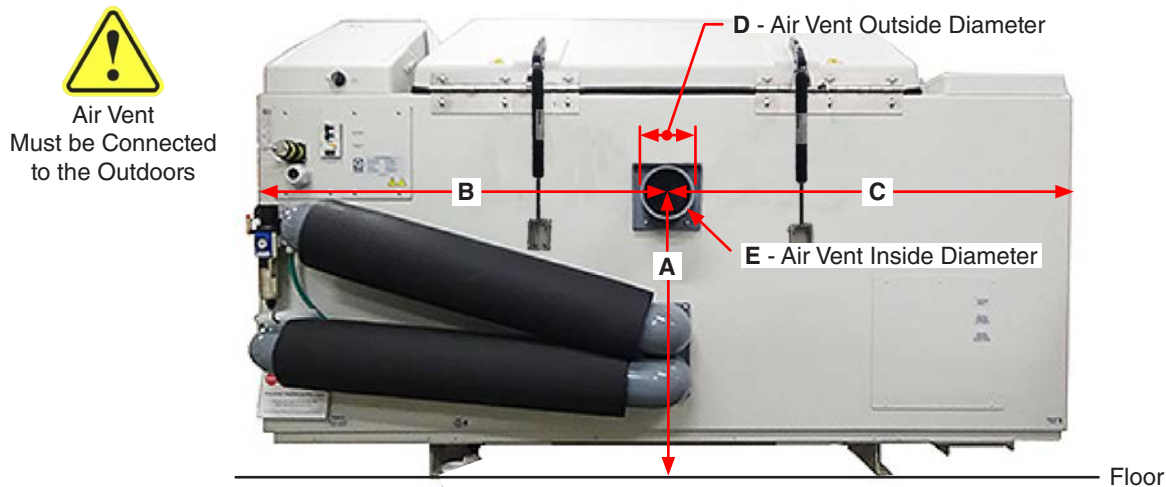

Figure 6.8a: Vent location.
- Air venting from the chamber is done via a 114 mm (4.5") outside diameter vent tube (Figure 6.8a).